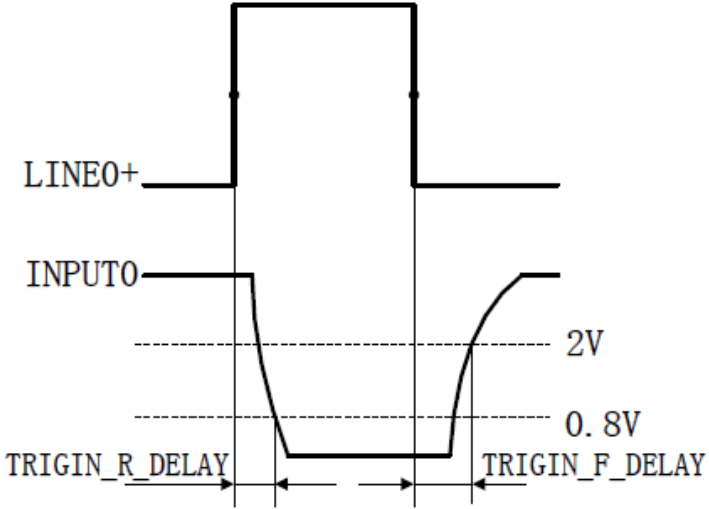

Figure 3-2 Optocoupler Isolated Input Circuit Parameters
- Rising delay time: <math><50\mu\text{s}</math> (0°C~45°C). See Figure 3-2 for parameter description.
- Falling edge delay time: <math><50\mu\text{s}</math> (0°C~45°C). See Figure 3-2 for parameter description.